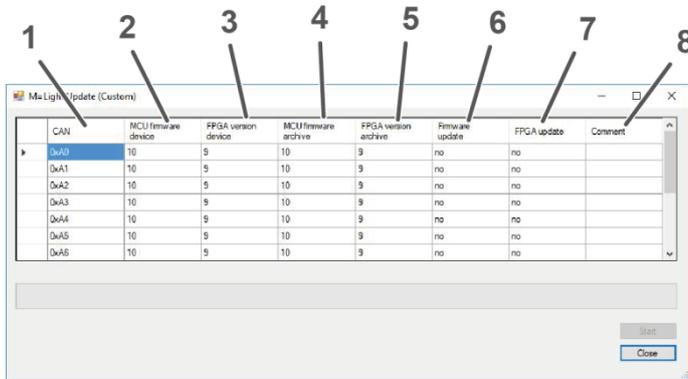

Figure 59: M=LIGHT Update window
- Check in the window M=LIGHT Update (Custom) whether an update is recommended (Figure 59, Pos. 5 and 6).